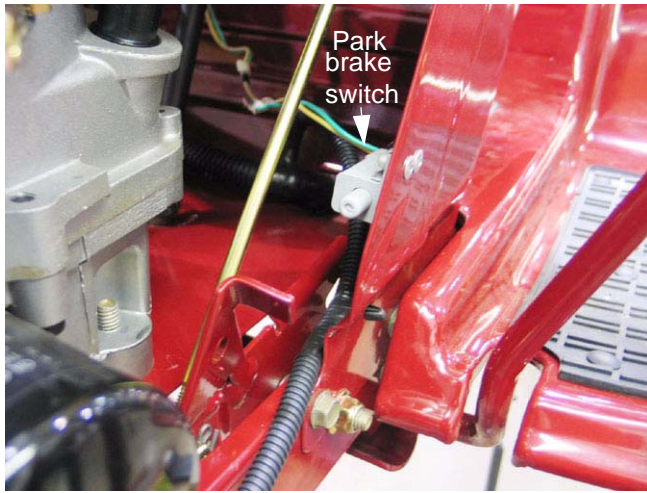

Figure 7.11
- The Park Brake Switch is riveted inside the left front edge of the dash panel. See Figure 7.11.
- The switch contains two sets of contacts, one set normally open (NO), and one set normally closed (NC). Only the normally open set is used in this application.